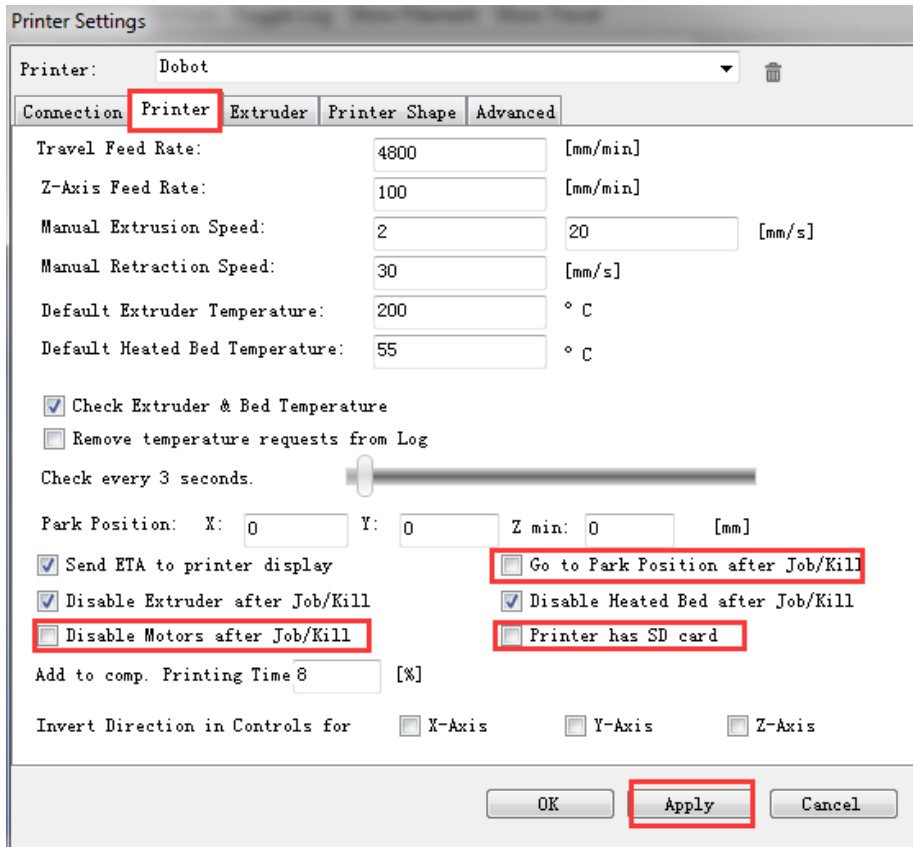

Figure 5.115 Unselect options
4. Unselect the corresponding options on the **Printer** tab as shown in the red box of, Figure 5.115 and the other parameters are set by default. Then, click **Apply**.